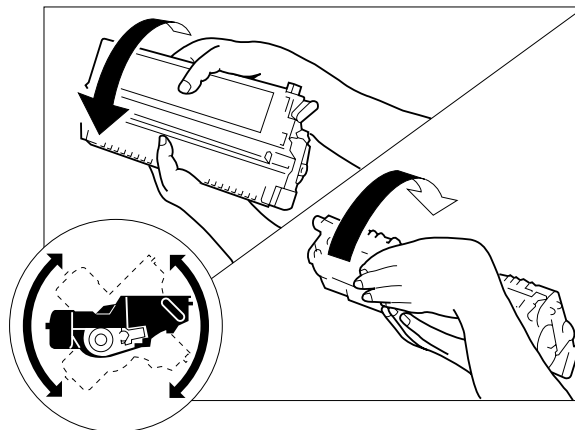

Figure 9-401B
- a. When setting the cartridge to the copier or if the toner starts to run short, hold the cartridge horizontally as shown in Figure 9-401B, and rotate it in both directions about 90° to even out the toner inside it. Do not shake the cartridge or hold it in a different way; otherwise, toner may leak out the cartridge.